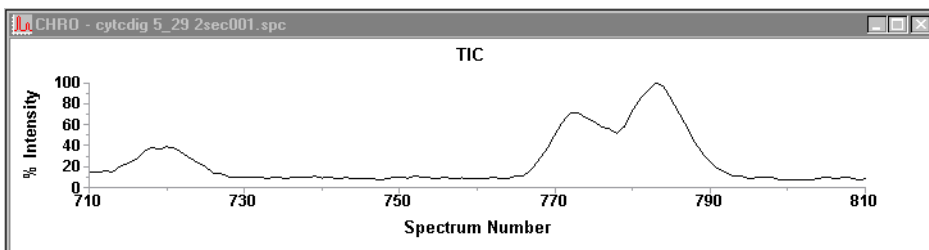

Figure 7-2 Unresolved Peaks in Cytochrome C
2. In the Chromatogram window, zoom in on the unresolved peaks (Figure 7-2).